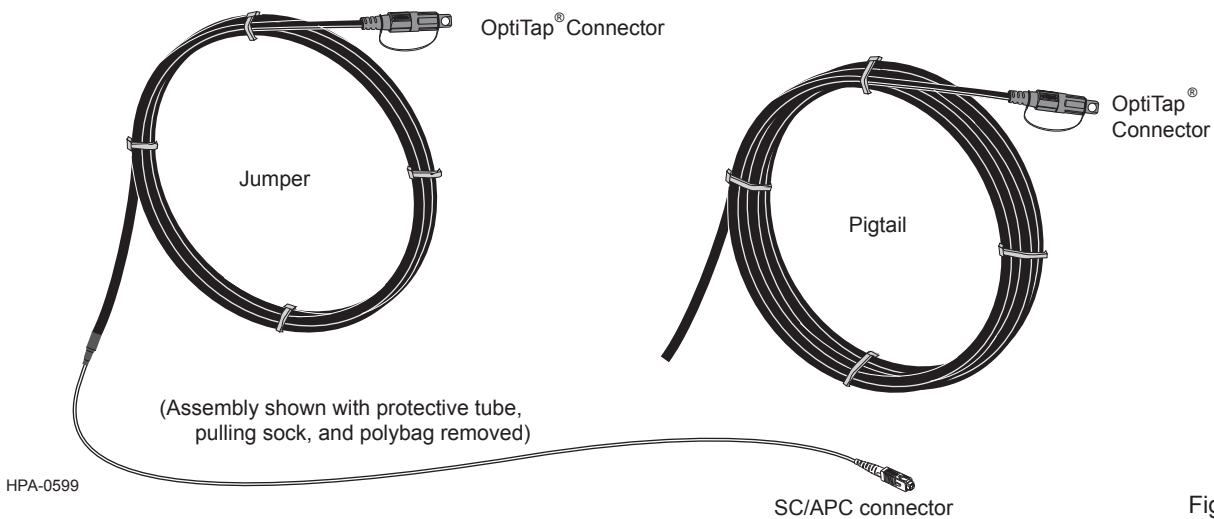

Figure 1
**1.1** This procedure describes installation and handling of SST Indoor-Outdoor Drop cable assemblies. Both pre-connectorized *jumper* (an OptiTap® connector on one end and an SC/APC connector on the other) and *pigtail* (an OptiTap® connector on one end, unterminated cable on the other) versions are described in this document (Figure 1).